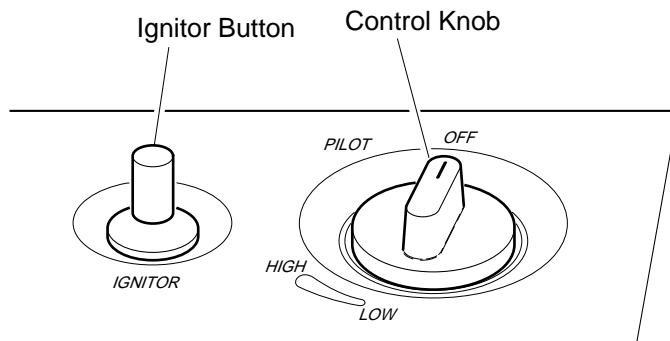

Figure 15 - Control Knob In The OFF Position
4. Wait five (5) minutes to clear out any gas. Then smell for gas, including near the floor. If you smell gas, STOP! Follow “B” in the safety information at the top of page 12. If you don’t smell gas, go to the next step.
5. Press in control knob and turn counterclockwise  to the PILOT position. Keep control knob pressed in for five (5) seconds (see Figure 15, page 16).